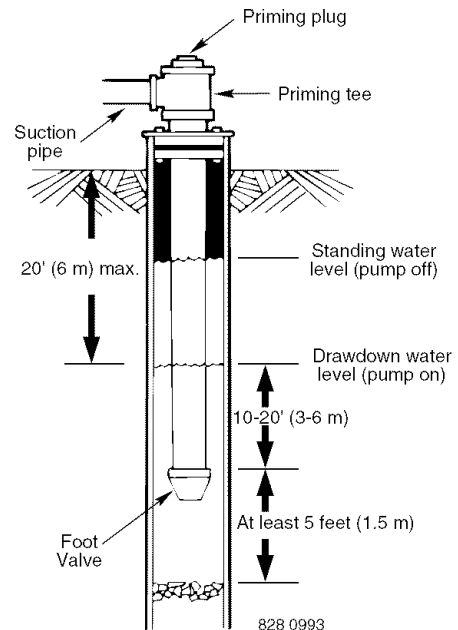

Figure 1: Cased/Dug Well Installation
- Step 5. When using foot valve, a priming tee and plug are recommended. (Figure 1).
NOTICE: For long horizontal pipe runs, install a priming tee between check valve and well head (Fig. 1). For driven point installations, install check valve. Be sure that check valve flow arrow points **toward** pump.